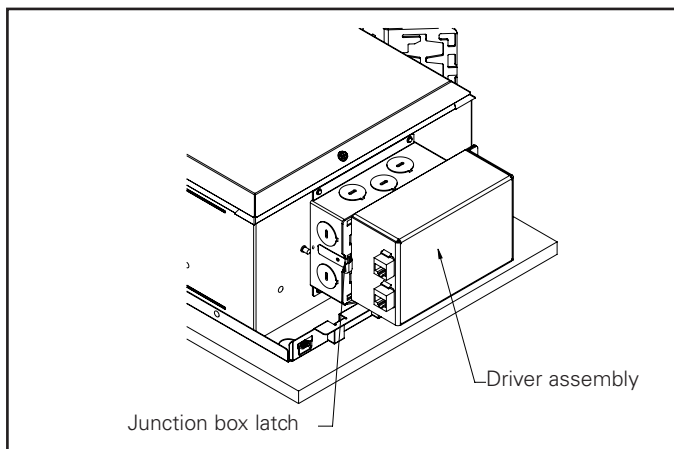

Figure 22.
1. Press the Junction Box Latch to remove the driver assembly (see Figure 22)